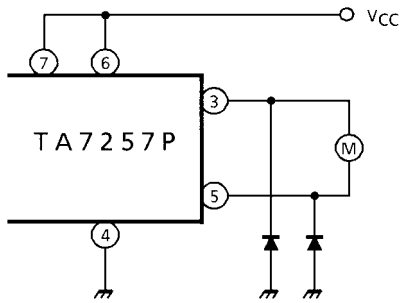

Fig. 3
(3) Additional diode
- i) If the braking operation is so loose, connect a additional diode between each output to GND, (See Fig.3)